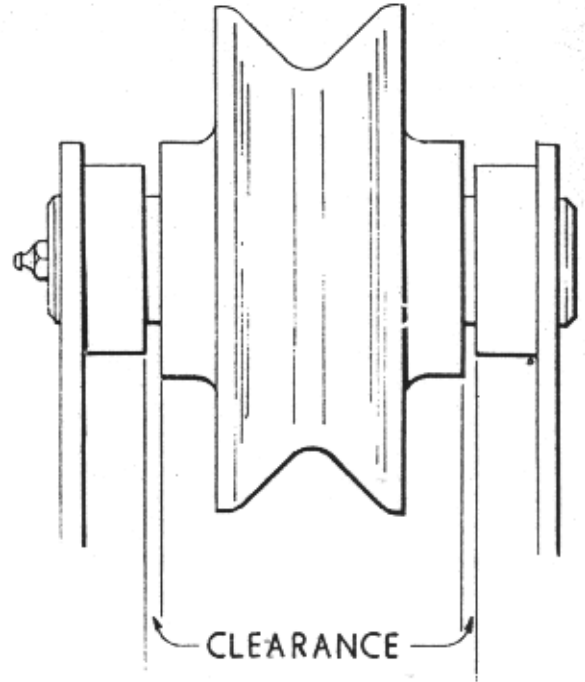

FIG. 10 LOADCELL STRIKER GUIDE CLEARANCE
Loadcell Striker Guide Clearance Fig. 10
2. When loadcell striker (Ref. 5. Group D) is resting on the loadcell. Check that the loadcell striker guide (Ref. 6 Group D) does not touch either side of its housing, see Fig. 10 (look from inside of engine compartments to check this) if it does, slacken off hex nuts either end of the link shaft (Ref. 8 Group D) and correct by moving hopper over away from offending side. Retighten hex nuts and check clearance again after raising and lowering hopper several times.